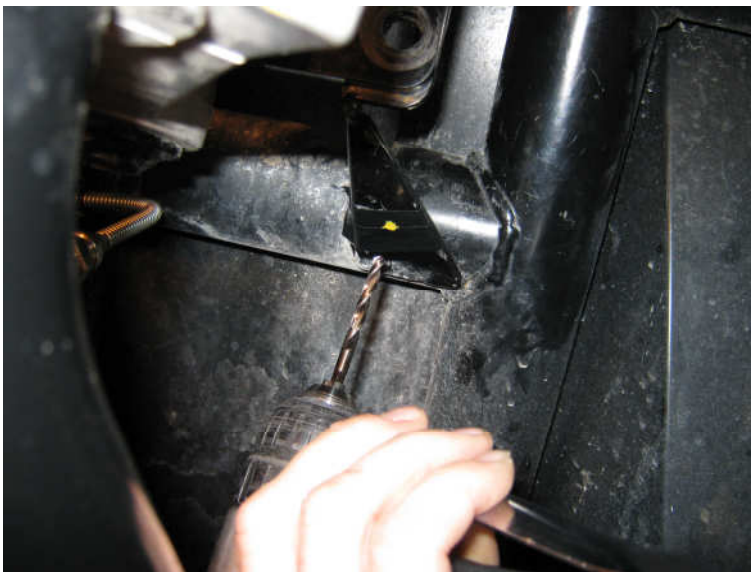

Figure 8. Drill a 3/8" hole
5. Remove the bracket and drill a 3/8" hole using an angle drill (Figure 8).